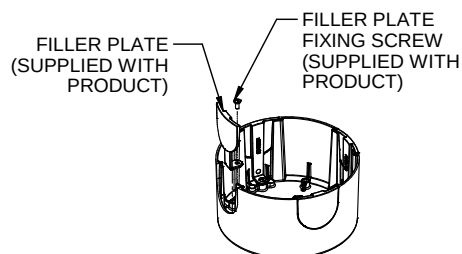

FIG 4.7A
4. To replace the Filler plates with 'U' Channel Inserts, unscrew the filler plate from the canopy and replace it with U channel insert and secure it with the same screw (FIG 4.7A & 4.7B).